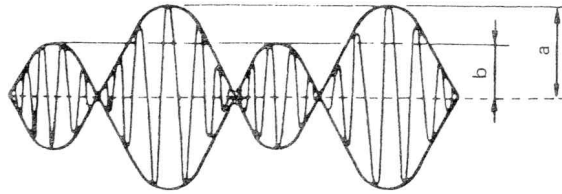

Fig. 4-2. Waveform before adjustment of the DC balance
- (1) Set the slide switch S101 on the PCB to CH-1. Adjust the volume (B1) to make (a) and (b) of the waveform in Fig. 4-2 equal.